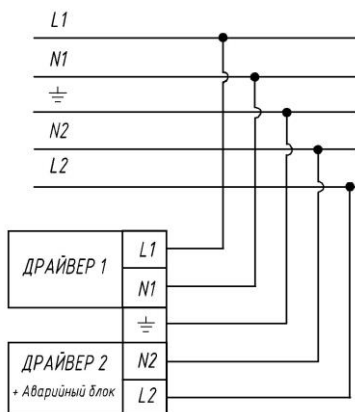

Рис. 9
- 4.7. OPL/R ECO LED 1200x600 EM 4000K luminaire with emergency module does not intended to be connected with TELEMANDO emergency lighting test and control device (see fig. 9).